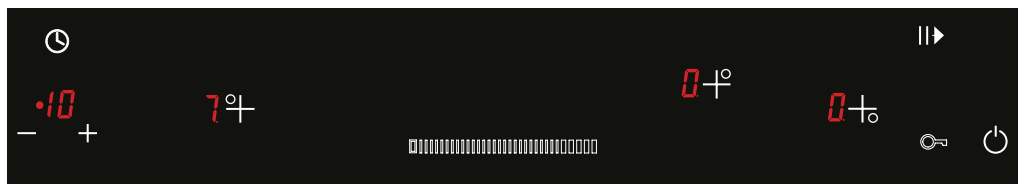
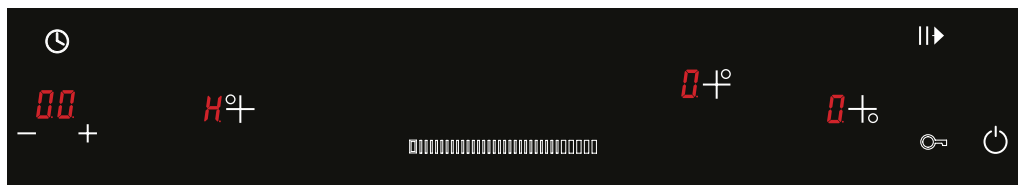

Figure 10
Figure 11
3. Relevant hob may be turned off by setting a timer. (See Fig. 10) When the time has expired, the timer flashes for 10 seconds and the hob set by the timer automatically switches off with a beep (See Fig. 11)
WARNING: On the figure above (Fig. 10), a 10-minute cooking period is set at 7 temperature level for the left hob as an example. A cooking period between 1 and 99 minutes may be set at the desired temperature level for the desired hob.